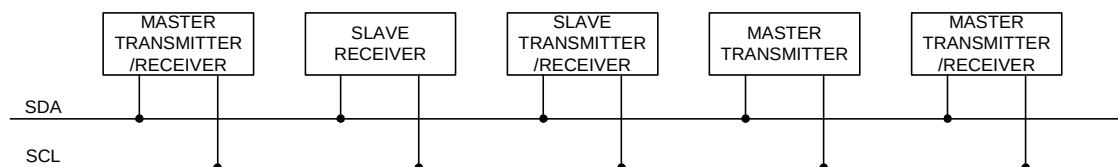
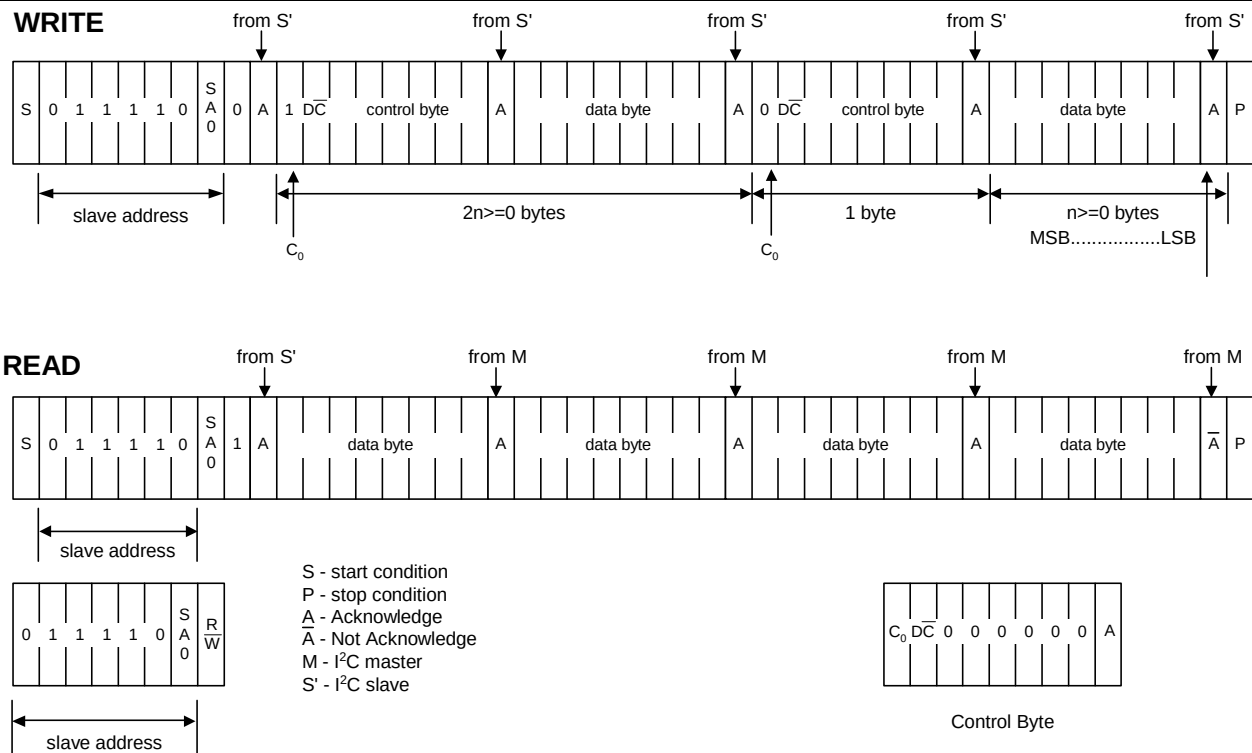

Figure 7 System configuration
Figure 9 I²C Protocol
The SH1107 supports both read and write access. The $R/\overline{W}$ bit is part of the slave address. Before any data is transmitted on the I²C-bus, the device that should respond is addressed first. Two 7-bit slave addresses (0111100 and 0111101) are reserved for the SH1107. The least significant bit of the slave address is set by connecting the input SA0 to either logic 0(VSS) or 1 (VDD). The I²C-bus protocol is illustrated in Fig.7. The sequence is initiated with a START condition (S) from the I²C-bus master that is followed by the slave address. All slaves with the corresponding address acknowledge in parallel, all the others will ignore the I²C-bus transfer. After acknowledgement, one or more command words follow which define the status of the addressed slaves. A command word consists of a control byte, which defines Co and $D/\overline{C}$ (note1), plus a data byte (see Fig.9). The last control byte is tagged with a cleared most significant bit, the continuation bit Co. After a control byte with a cleared Co-bit, only data bytes will follow. The state of the $D/\overline{C}$ -bit defines whether the data-byte is interpreted as a command or as RAM-data. The control and data bytes are also acknowledged by all addressed slaves on the bus. After the last control byte, depending on the $D/\overline{C}$ bit setting, either a series of display data bytes or command data bytes may follow. If the $D/\overline{C}$ bit was set to '1', these display bytes are stored in the display RAM at the address specified by the data pointer. The data pointer is automatically updated and the data is directed to the intended SH1107 device. If the $D/\overline{C}$ bit of the last control byte was set to '0', these command bytes will be decoded and the setting of the device will be changed according to the received commands. The acknowledgement after each byte is made only by the addressed slave. At the end of the transmission the I²C-bus master issues a stop condition (P). If the $R/\overline{W}$ bit is set to one in the slave-address, the chip will output data immediately after the slave-address according to the $D/\overline{C}$ bit, which was sent during the last write access. If no acknowledge is generated by the master after a byte, the driver stops transferring data to the master.